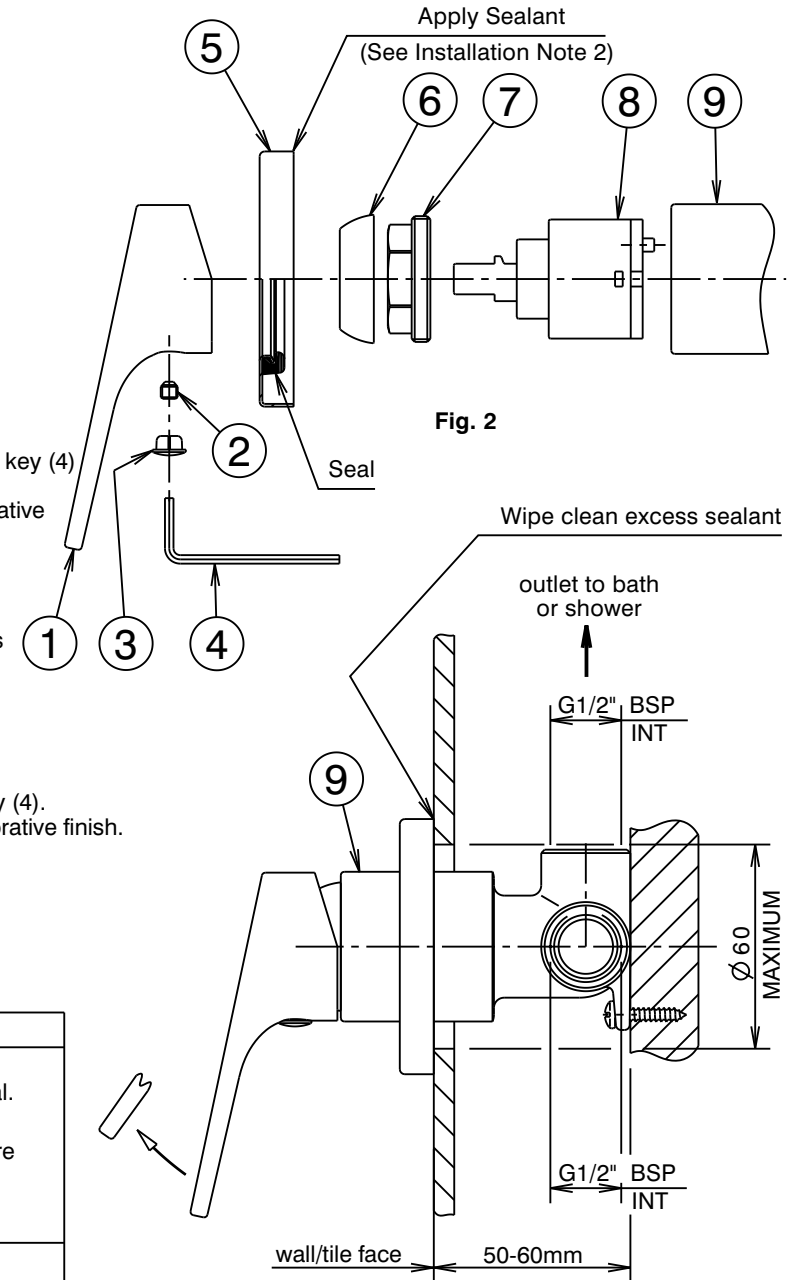

Fig. 1
### Installation (Fig. 1 & 2)
- \* Mixer body (9) must be installed square to wall/tile face, to ensure cover plate (5) sits flush.
- 2) Apply a suitable clear sealant to the back edge of the cover plate (5), to prevent water from entering the wall cavity, leaving an unsealed section at the bottom for drainage. (See Fig. 2). Carefully slide the cover plate (5) together with seal onto the mixer body (9), ensuring the **Dorf** marking on the cover plate is positioned horizontally at the bottom. Push firmly against the cover plate (5) until it contacts the wall/tile face & the sealant has formed a waterproof joint. Wipe clean any excess sealant from the chrome surfaces & the wall/tile face (See Fig. 1).
- 3) Fit handle (1) taking care that it is pushed fully down, then tighten grub screw (2) using the 2.5mm allen key (4). Fit plug (3), taking care not to damage the decorative finish.